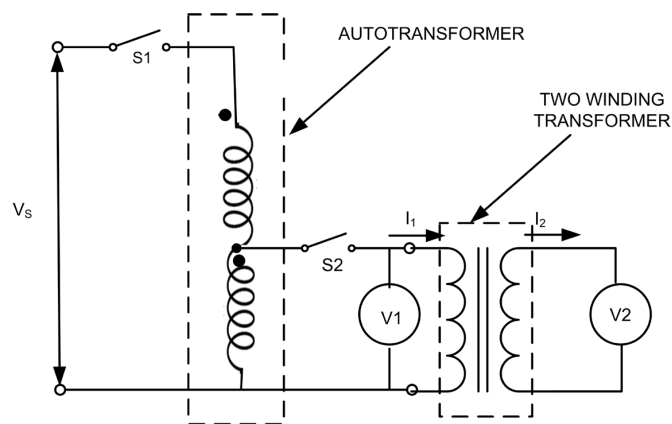

Fig. P4.1: Circuit diagram for determining turns ratio of transformer
1. Connect the circuit as shown in Fig. P4.1.